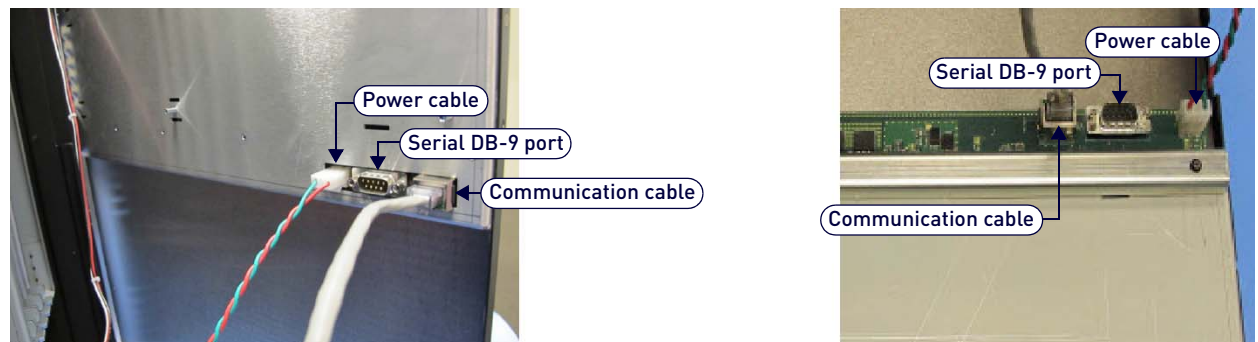

FIG. 143 Control panel cables/ports (appearance varies slightly depending on model)
5. Connect a null modem serial cable to the serial (DB-9) port on the control panel (FIG. 143):